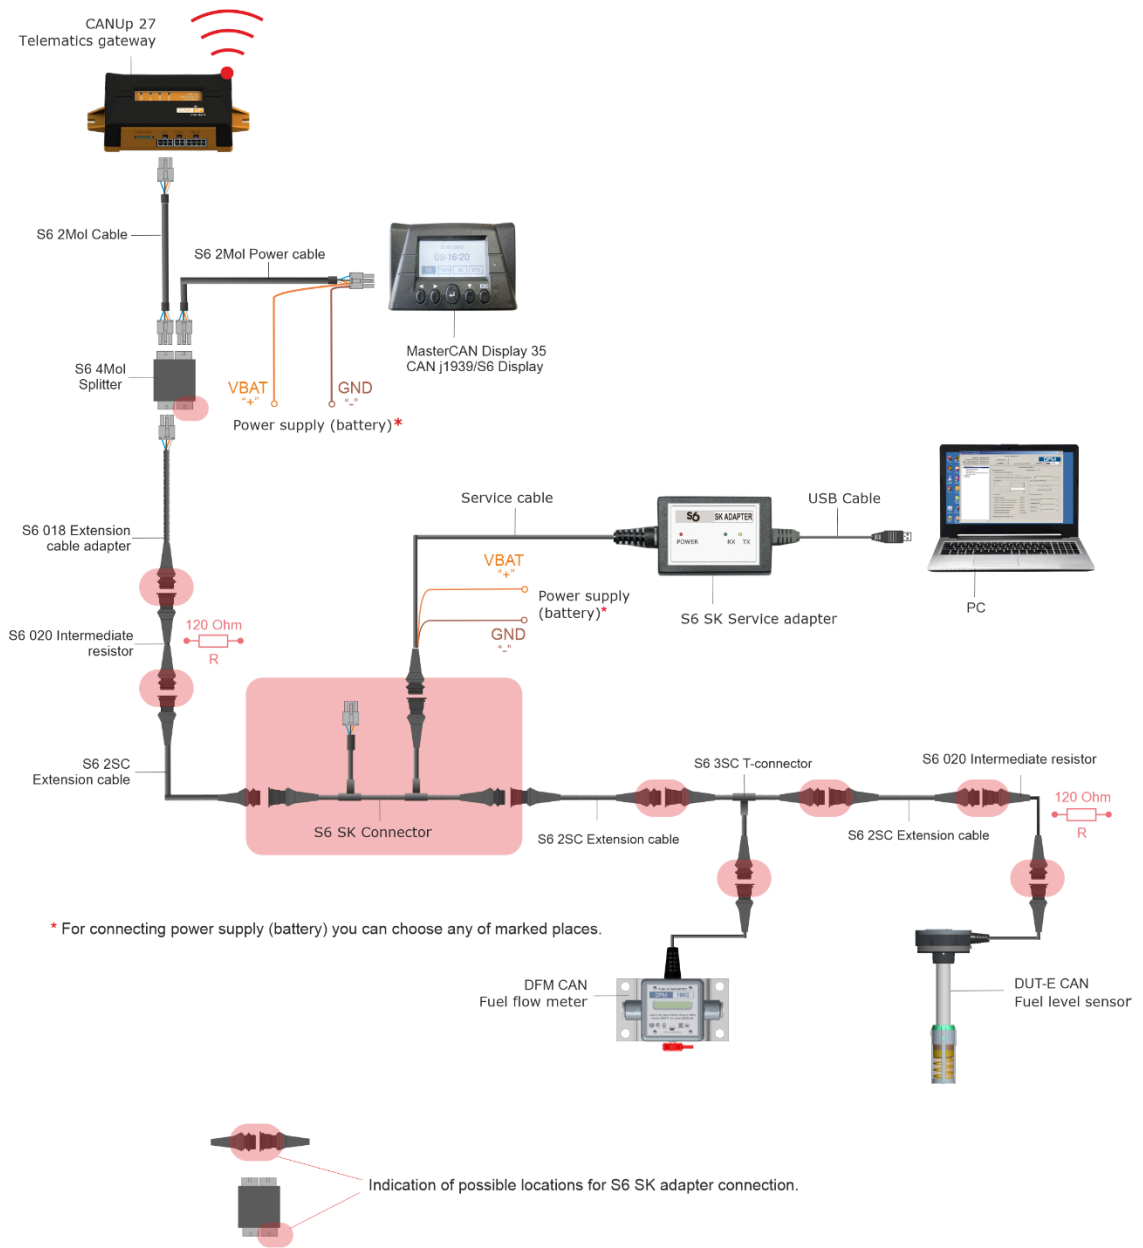

Figure 22 — Example of connection diagram for Units connected using S6 Technology
- During the configuration of Units operating within the network based on S6 Technology you may plug the connector of the adapter service cable into the break in S6 cable system using S6 SK connector (e.g. instead of any S6 3SC T-connector). In this case, the power supply for the Unit and adapter is provided through S6 cable system (see figure 22).